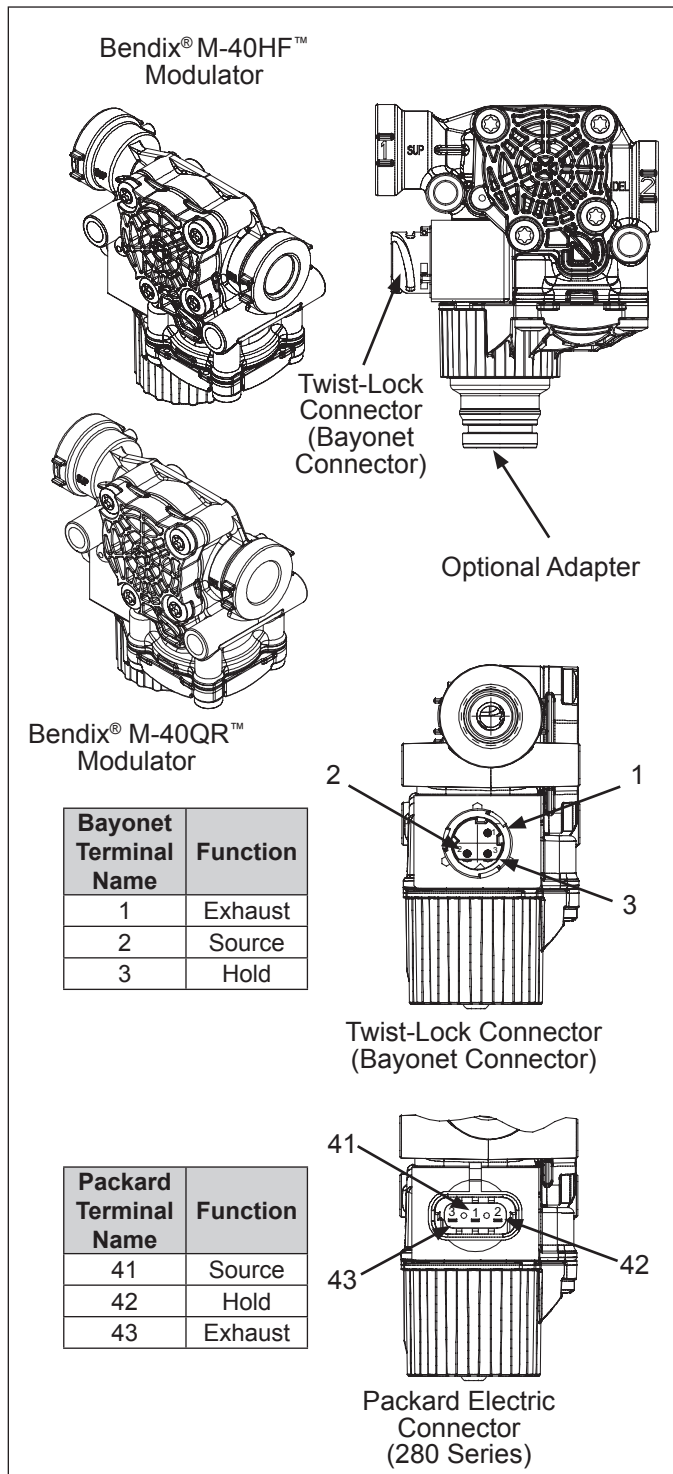

Figure 7 - Exterior Views and Electrical Connections
2. Proceed to the modulator in question and inspect its wiring connector. Disconnect the connector and test the resistance between the pins **on the modulator**. Refer to Figure 7.